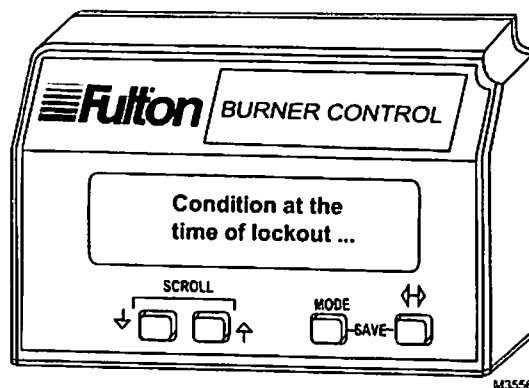

Fig. 2. Lockout message state 2.
2. State 2, see Fig. 2. Display of the second state message lasts two seconds.